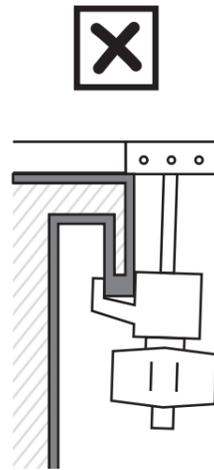
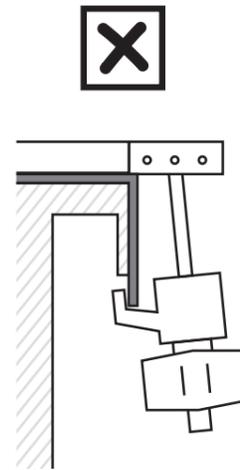
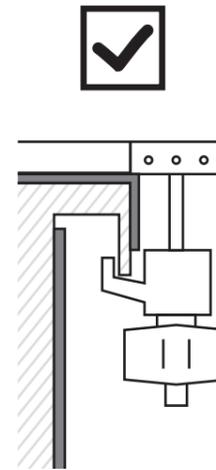

Fig. 5
Fig. 6
Fig. 7
- ▶ If the truck is equipped with Over-the-Bedrail bed liner (Fig.5) or bed side rail cap with plastic lip lower than factory metal bed lip (Fig.6), small holes of about 2" x 4" will need to be cut on the plastic liners so the clamps can be fastened securely to the metal part of the truck bed lips (Fig.7).